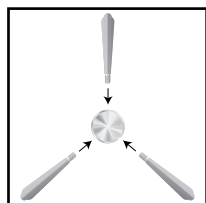

Figure 5.1
Insert the three (3) spindles into the holes located on the side of the handle and screw to the right (clockwise) by hand until they are snug in the handle (Figure 5.1).